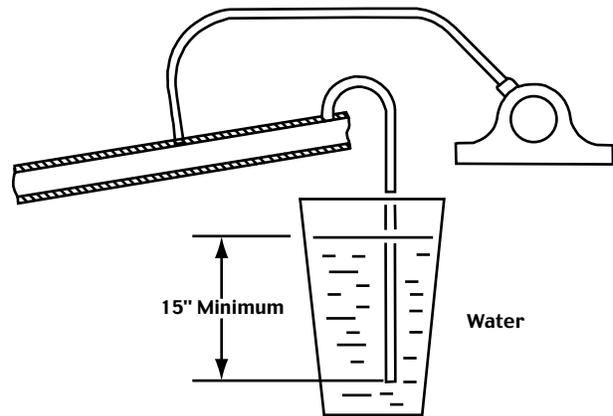

Figure 54. Checking manifold pressure with a water container.
If an inches of water pressure gauge is not available, the manifold pressure can be checked by lowering a tube from the downstream manifold system into a container of water at least fifteen (15) inches deep. Bubbles will cease to rise from the end of the tube at a depth corresponding to the inches of water column pressure (see Figure 54).